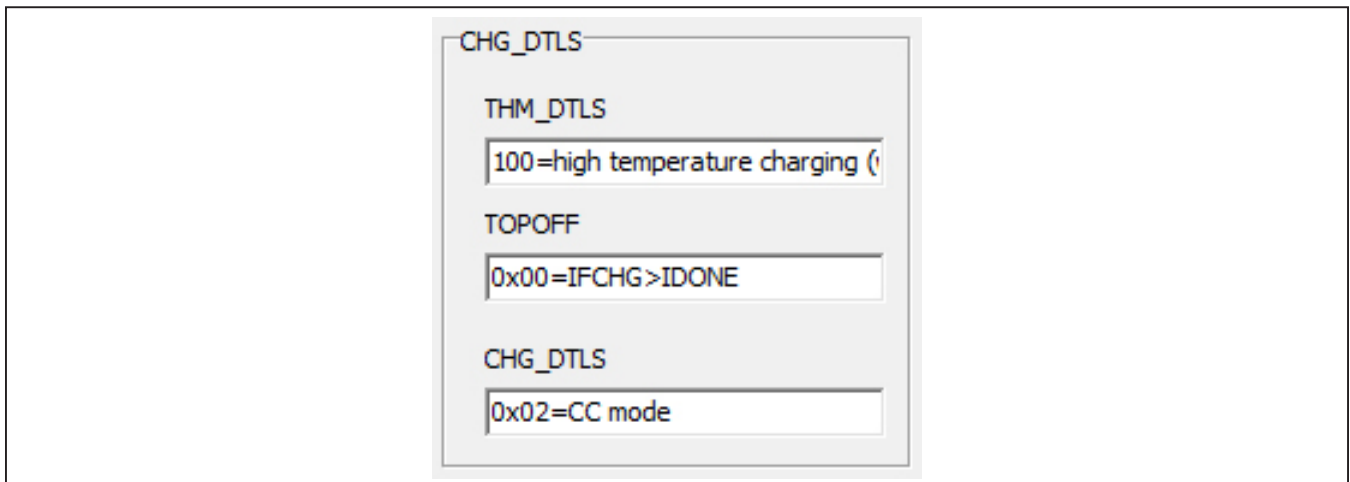

Figure 8. Charger Details
- 5) Charging status can be monitored through registers in tab **CHG INT AND DETAILS**. Clicking **Read All**, CHG\_DTLS → CHG\_DTLS gives the charging status that the battery is currently involved in, as indicated in Figure 8.